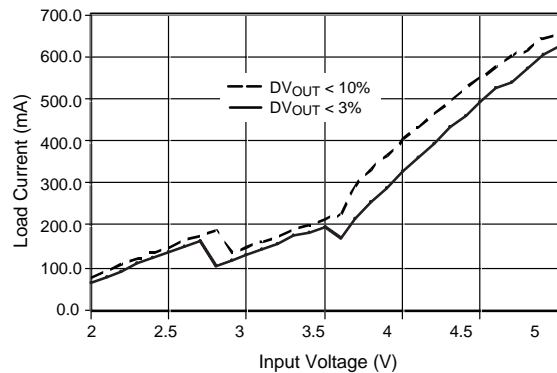

Figure 9. Output Current Capacity vs. Input voltage
2. Refer to Figure 9 in Typical Performance Characteristics